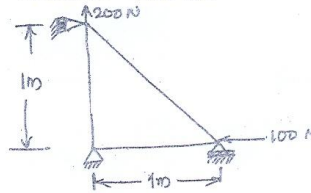

Fig Q6(b) @
- b. Determine the nodal displacements in the truss segments subjected to concentrated load as shown in Fig Q6 (b). Take  $E = 70\text{GPa}$   $A = 0.01\text{ m}^2$ . (10 Marks)